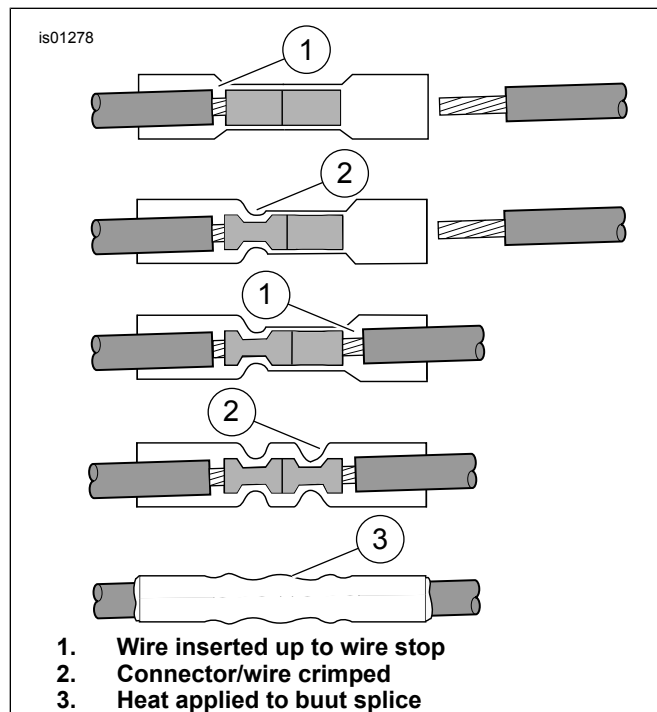

Figure 14. Splice Sequence (1 into 1 Configuration)
See Figure 14. Gently hold the butt splice from the kit in the "blue" jaws of the Packard Crimp Tool. Feed the stripped lead(s) up to the wire stop inside the metal insert (1) in one half of the connector. Squeeze the tool to crimp the metal insert (2). The tool automatically opens when finished. Repeat for the other end of the connector (2) to capture one or two stripped leads including, if required, the fuse block adapter.